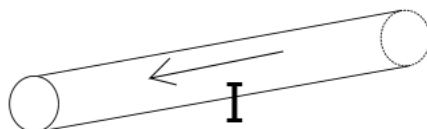

Figure 3.1: Wire with a current I going from right to left.
5. Imagine stacking multiple wires similar to that of Fig. 3.1 parallel to each other, with the current of each all running in the same direction. Would the magnetic field close to the stack of wires be greater, equal or smaller than the scenario with a single wire?